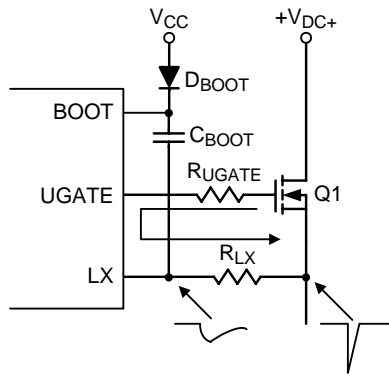

Figure 5. LX Pin Resister
- ▶ In Figure 5, the LX pin voltage drop can be improved by adding  $R_{LX}$  ( $R_{LX} = 1$  to 10Ω), because the  $dv/dt$  is affected by  $(R_{LX} + R_{UGATE})$ .